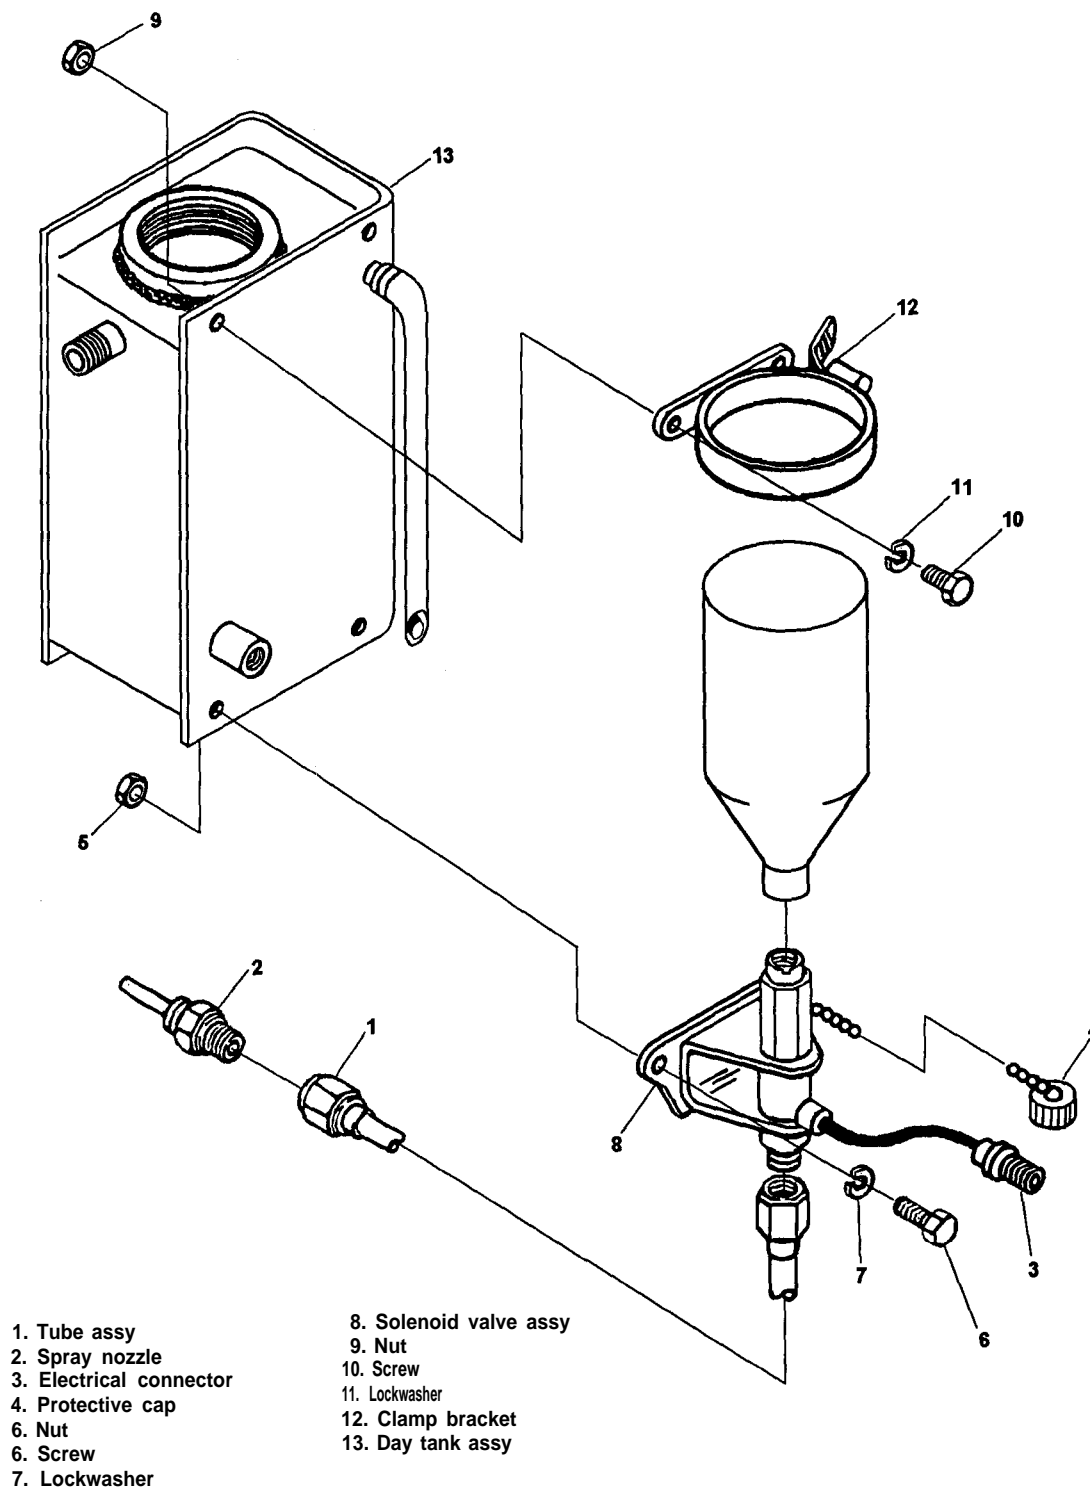

Figure 4-22. Start Aid Assembly, Removal and Installation
- (1) Remove tube assembly (1, Figure 4-22) and unscrew spray nozzle (2) from air cleaner housing.
- (2) Remove ether tank and install protective cap (4) on solenoid valve assembly (8).
- (3) Disconnect electrical connector (3) from solenoid valve assembly.
- (4) Remove nuts (5), screws (6), and lockwashers (7) to remove solenoid valve assembly (8).
- (5) Remove nuts (9), screws (10), and lockwashers (11 ) to remove clamp bracket (12) from day tank assembly (13).
- (1) Install clamp bracket (12, Figure 4-22), lockwashers (11), screws (10), and nut (9) onto the day tank assembly (13).
- (2) Install solenoid valve assembly (8), lockwashers (7), screws (6) and nuts (5).
- (3) Reconnect electrical connector (3) to solenoid valve assembly.
- (4) Install ether tank and remove protective cap (4) from solenoid valve assembly (8).
- (5) Screw spray nozzle (2) into air cleaner housing and install tube assembly (1).